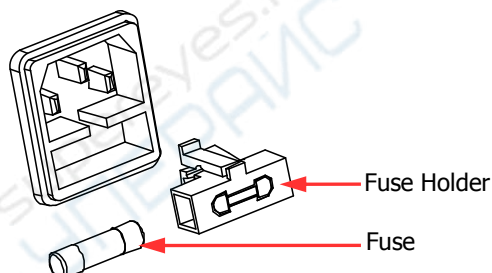

Figure 1-7 Fuse Replacement
2. Insert a slotted screwdriver into the slot of the fuse holder to pry it out, as shown in Figure 1-7.